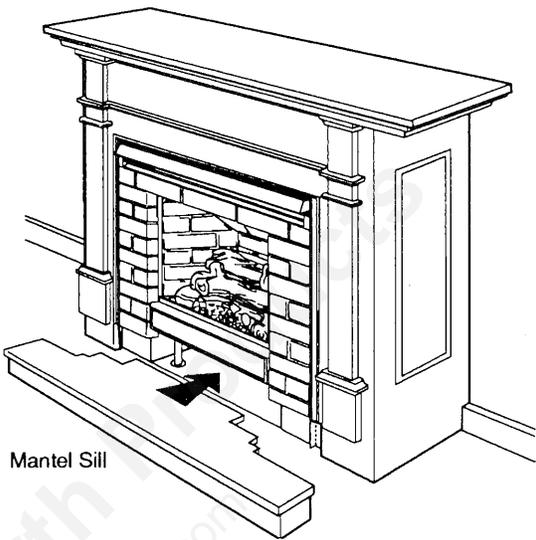

Figure 15. Install the Mantel and Sill.
Step 11. Position the Mantel over the Cabinet and secure to the nailing strips with finishing nails. Fig. 15.
Step 12. Place the Mantel Sill into position at the base of the Mantel. Fig. 15.